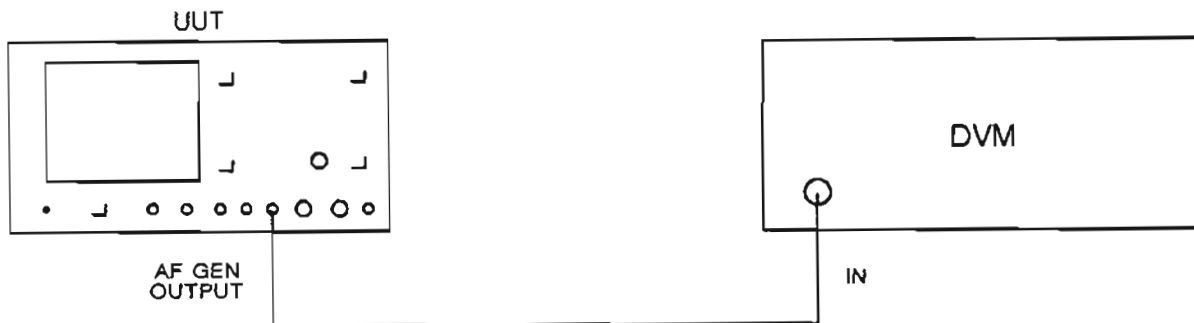

Fig. 10 Test equipment connections for adjusting R48,R11,R12 on AB6
- (1) Connect the equipment as shown in Fig. 10.
- (2) Set the u.u.t. to receiver test.
- (3) Set the 2955 a.f. generator frequency to 1 kHz, level 1 V.
- (4) Set the d.v.m. to measure a.c.